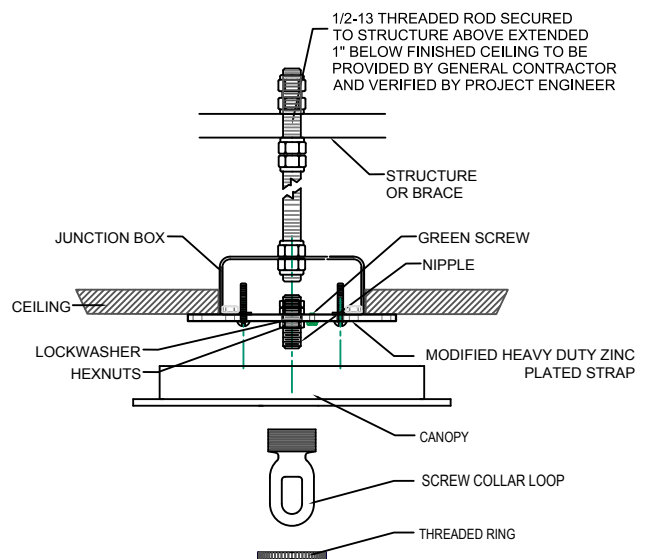

FIGURE-01
2. Remove the threaded ring from the screw collar loop. Fully thread the screw loop onto the nipple. Thread the hex nut onto the nipple and the nipple into the mounting strap. Place the canopy over the screw collar and against the ceiling. Adjust the nipple so that $\frac{1}{4}$ " of threads on the screw collar loop extend beyond the canopy. Tighten the hex nut against the crossbar. Using the threaded ring, install the canopy. (See Figure -01)